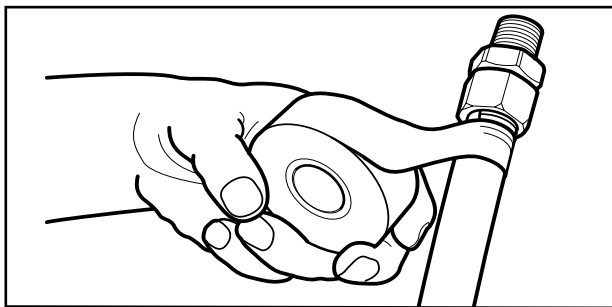

Figure: 4-17-Wrapping with self bonding silicone tape - begin on jacket.
- When installed outdoors, the plastic jacketing shall remain intact as much as practical for the given installation. Any portions of exposed stainless steel shall be wrapped with self bonding silicone tape sealing the fitting connection to prevent later corrosive attack by acid wash or chloride based compounds. Figures: 4-17 and 4-18.
room or exposed to a corrosive environment which may be harmful to the tubing, all exposed portions of the stainless steel tubing shall be wrapped with self-bonding tape. Figures: 4-17, 4-18.
of exposed stainless steel shall be wrapped with self bonding silicone tape sealing the fitting connection. Figures: 4-17 and 4-18. When the appliance is mounted on vibration isolations pads the **TracPipe® CounterStrike®** shall be terminated with a listed termination fitting and the appliance shall be connected to the gas piping system with a listed appliance connector.